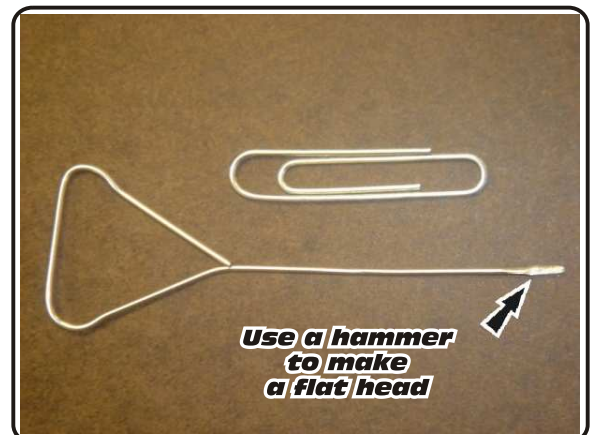

Fig. 3
**NOTE:** If you don't have a small flat head screwdriver use a regular paper clip to make one (see Fig. 3).